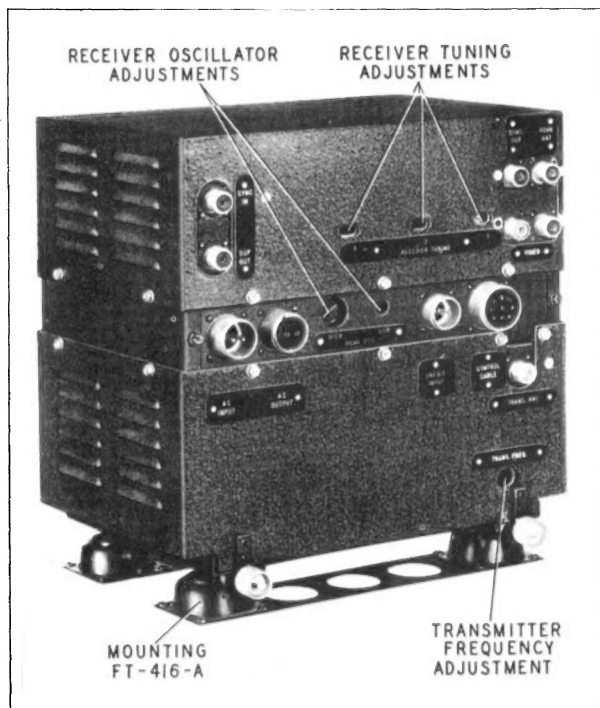

Figure 2 — Radio Receiver and Transmitter BC-800-A
(1) This unit is a complete radio receiver and transmitter which will receive on two preset frequencies and transmit on one frequency. The front panel contains seven female sockets for coaxial connectors, two two-prong male, one two-prong female and one nine-prong female socket for power and control connections. See figure 2 for socket markings.